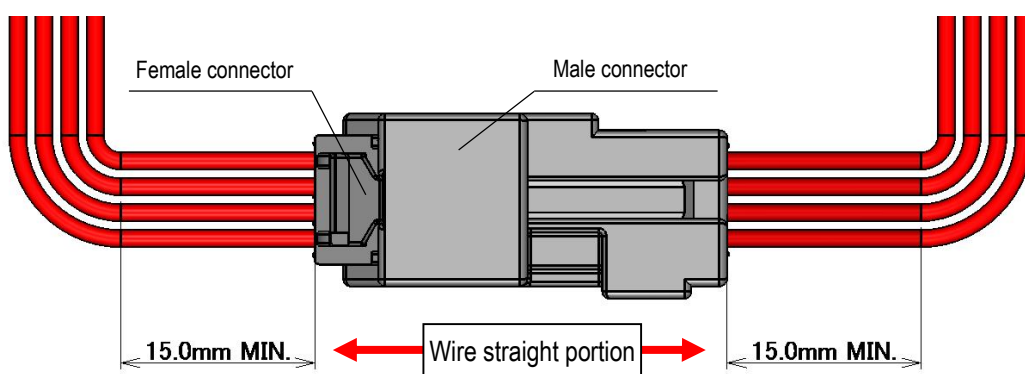

Fig.50 Arrangement of wires
- ① When arranging the wires to sideways, keep the wires in straight (at least 15mm) from the connector to avoid excessive stress to the housing sidewalls and terminals or the terminal leaning inside the housing as shown in Fig.50.
- ② Once straight portion is secured, arrange the wires with adequately large R.